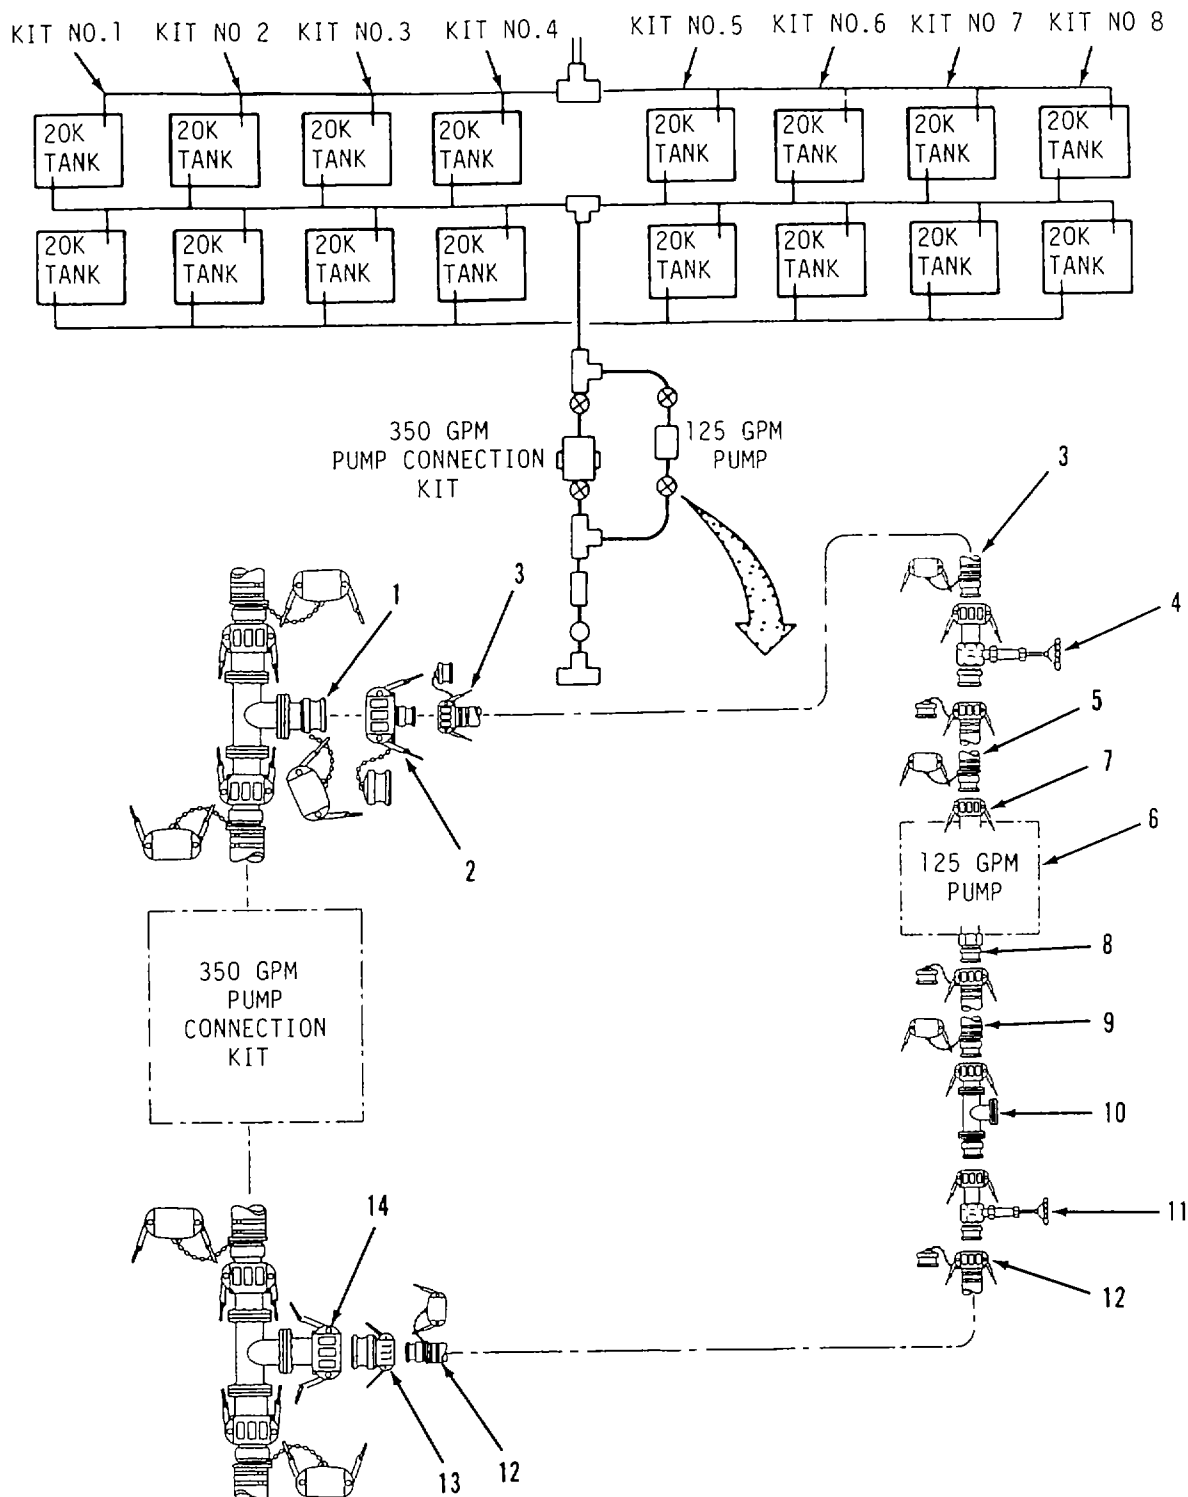

Figure 2-31. 125 Gpm Pump Connection Kit (Distribution Point) Disassembly.
- g. Disassemble 125 Gpm Pump Connection Kit (Distribution Point). Refer to figure 2-31.